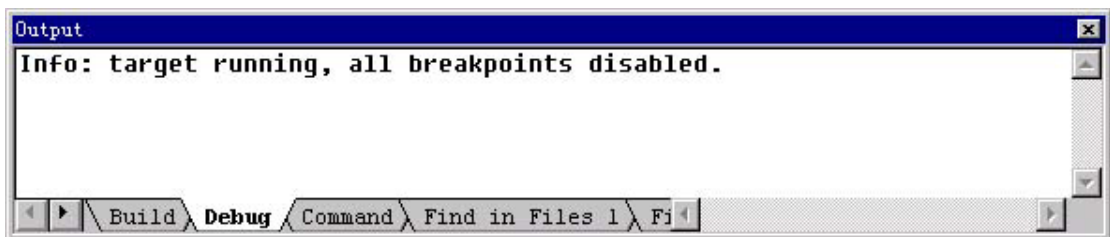

Figure 3-15 Debug Output Window
- Running status: When the target board is in this status, debug output window shows messages as "Info: target running, all breakpoints disabled." as shown in Figure 3-15.